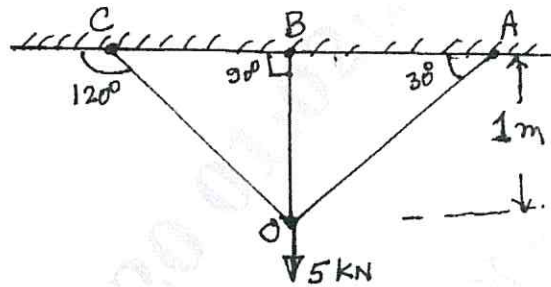

Fig.Q.9
- 9 Analyze the truss shown in Fig.Q.9 using stiffness matrix method. It cross sectional areas of vertical member  $300\text{mm}^2$  and inclined members area  $200\text{mm}^2$ . Take  $E = 2 \times 10^5 \text{N/mm}^2$ .